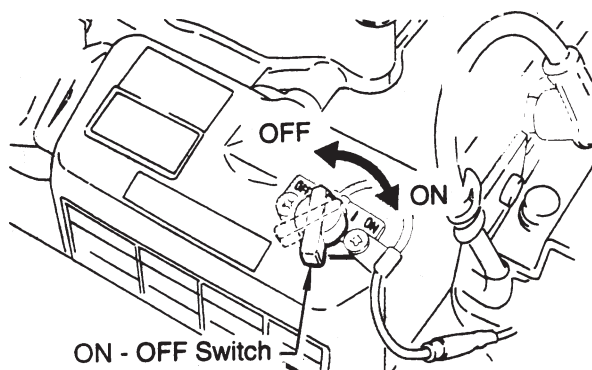
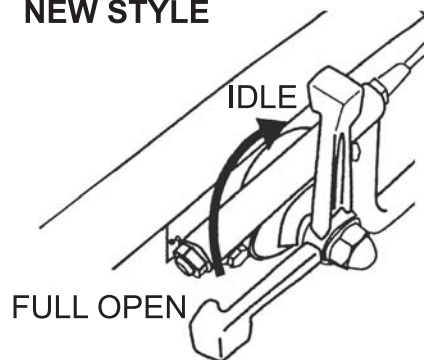

Figure 6. On Off Switch
Figure 10. Throttle Lever (Idle)
2. Set the engine ON/OFF switch (Figure 6) to the "**ON**" position (start).
1. Move throttle lever quickly from the **FULL OPEN** to **IDLE** position (Figure 10) and run the engine for three minutes at low speed. After the engine **cools**, turn the engine start/stop switch to the "STOP" position (Figure 6) until engine comes to a complete stop.